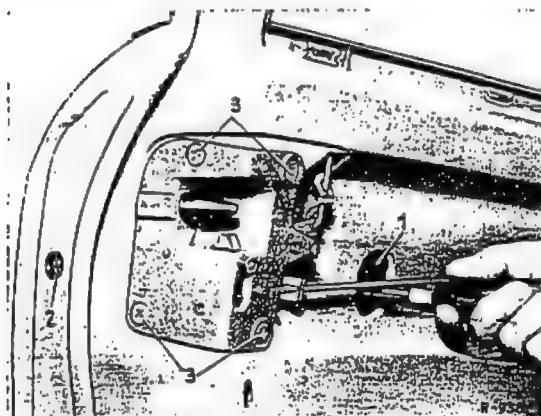

Fig. 72-17/2
2. Back out the fixing screw (1) about two turns. Unscrew the fixing screw (2) (Fig. 72-17/2).
3. Push the door handle toward the hinge side and remove together with the rubber pads (Fig. 72-17/3).